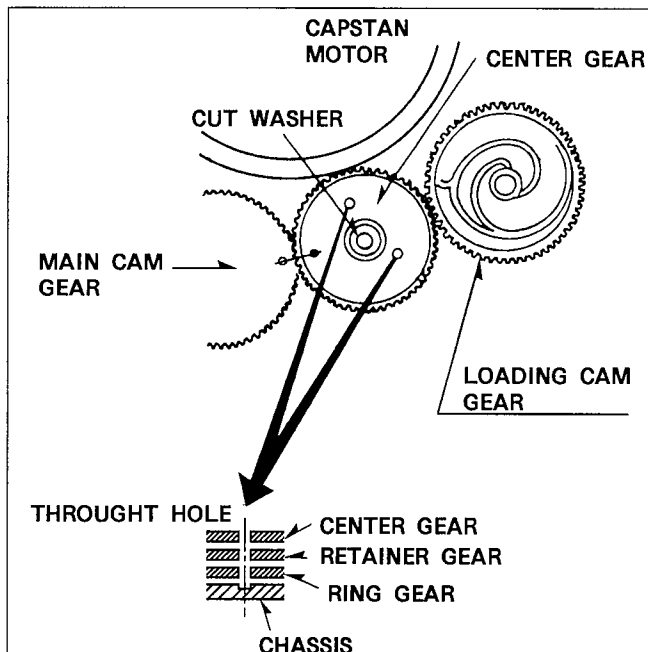

Figure M43
1. Softly Install the Center Gear onto the Retainer Gear so that the two holes in the Center Gear align with the holes on the Retainer Gear, then install the cut washer as shown in Figure M43.